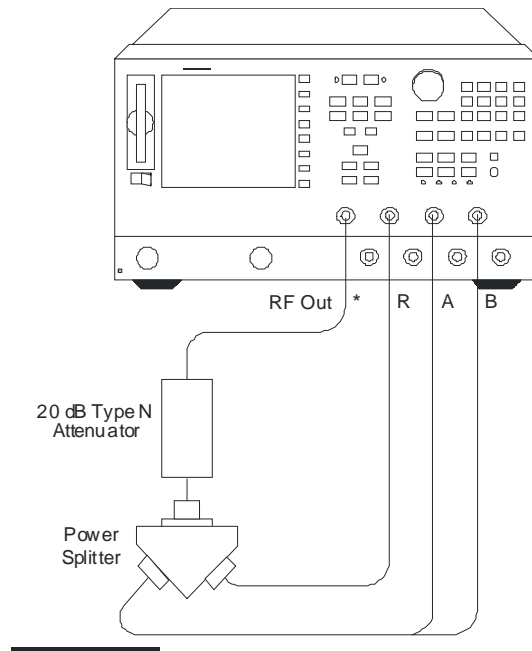

Figure 5-4. Operator's check setup
- 7** At the prompt, connect the equipment as shown in Figure 5-4, with power to inputs R and A. Press the *Continue* softkey as prompted until the analyzer displays PASS or FAIL.